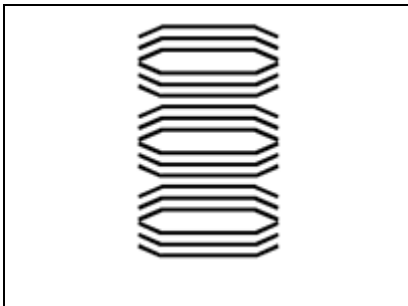

Fig. 9: Position and orientation of disk springs (2)
1. Place the intermediate plate (6) on the carrier (12) in the position indicated by the felt tip pen mark.
2. Place head plate (3) together with pump-head insulation and threaded adapters on intermediate plate (6) (felt pen marking in direction of motor).
3. Place disk springs (2) (for position and orientation see Fig. 9).
4. Insert head screws (1) with disk springs (2) and tighten diagonally (tightening torque: 9 Nm).